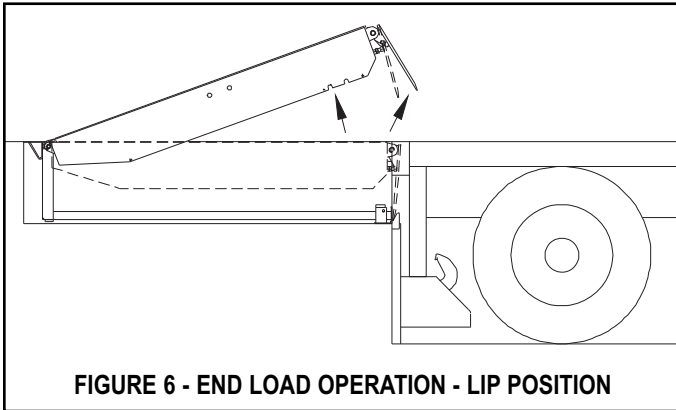
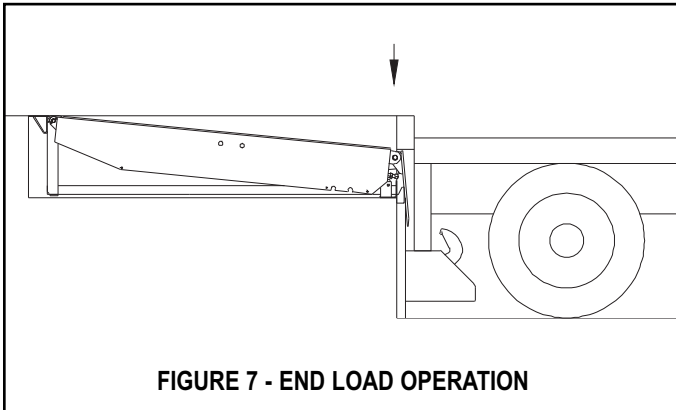

FIGURE 6 - END LOAD OPERATION - LIP POSITION
FIGURE 7 - END LOAD OPERATION
1. Activate the leveler by pushing and holding the RAISE button until leveler is fully raised and lip begins to extend. See figure 6.
2. When lip extends about 2 inches, release RAISE button. See figure 6. The leveler will lower to the below dock position with the lip positioned between the face of the loading dock and the truck/trailer bed. See figure 7.